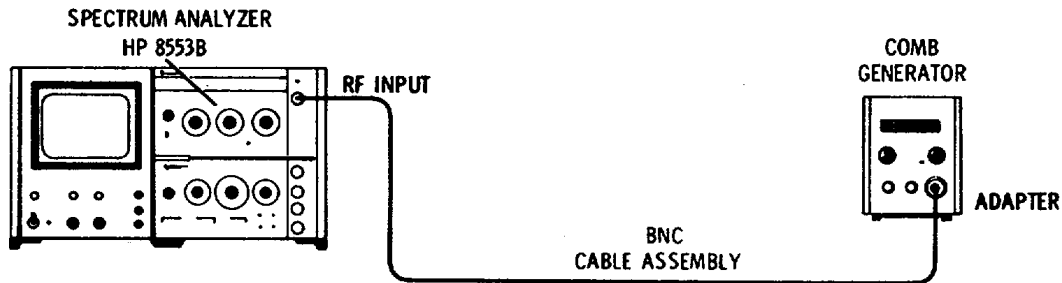

Figure 4-8. Tuning Dial Accuracy Test
1. Connect the equipment as shown in Figure 4-8. Make the following control settings: